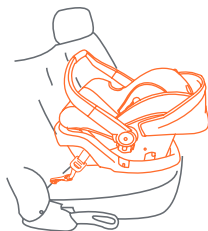

Fig. 51-1
- Safety Seat with Base:** Make sure the vehicle is parked on level ground. Lock the Safety Seat onto the Base and check that the Safety Seat is level side to side on the vehicle seat (Fig. 51-1).